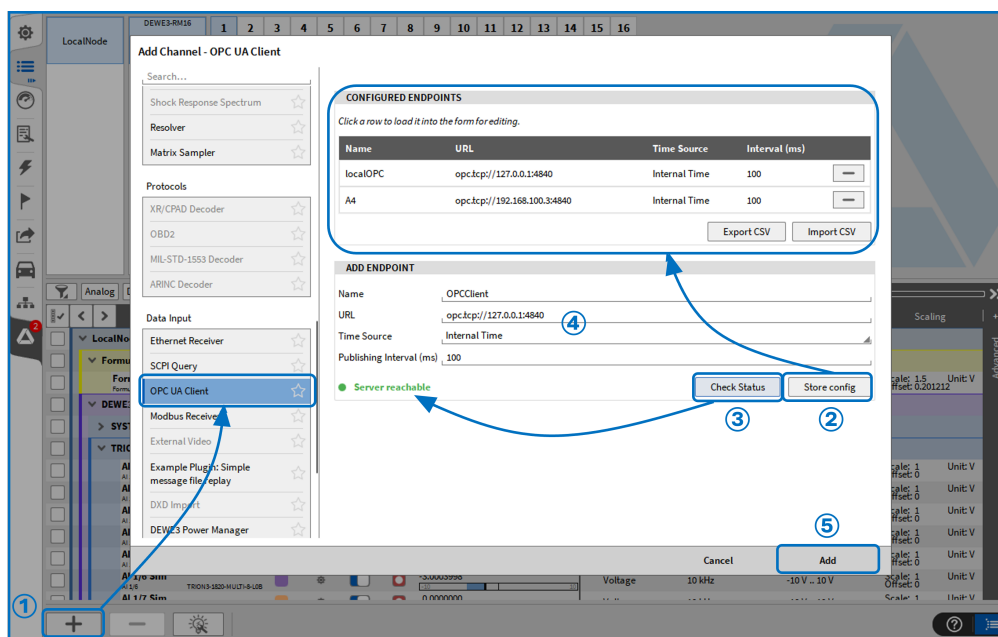

Fig. 5.1: Activate an OPC UA Client
- **Add Plugin:** Open the OXYGEN channel list, click the + button (See ① in Fig. 5.1), and select *OPC UA Client* from the Data Input section.
- **Select or Add Endpoint:** Choose an existing server from *Configured Endpoints* or create a new one in the *Add Endpoint* section (See ④ in Fig. 5.1).
- **Verify Connection:** Click *Check Status* (See ③ in Fig. 5.1). The system will display "Server reachable" (green) or "Server not reachable" (red).
- **Save & Add:** Click the *Store Config* button (see ② in Fig. 5.1) to store the configuration in the *Configured Endpoints* list. Click *Add* (See ⑤ in Fig. 5.1) to finalize.